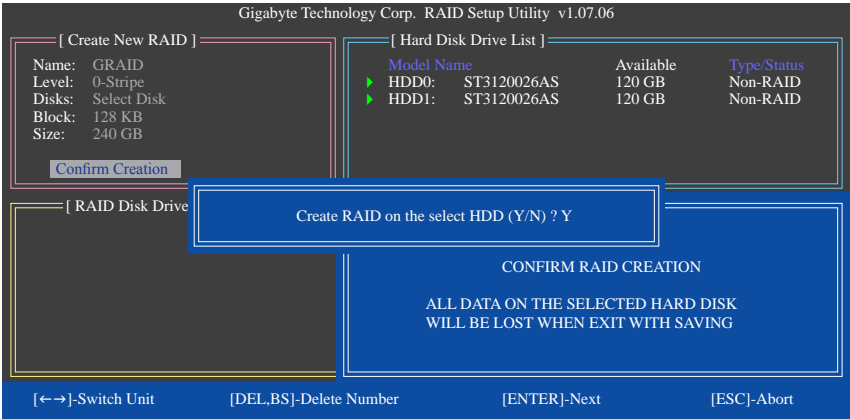

Figure 7
- Confirm Creation:** After all of the items above are configured, the selection bar automatically jumps to the **Confirm Creation** item. Press <Enter>. When prompted to confirm your selection (Figure 7), press <Y> to confirm or <N> to abort.